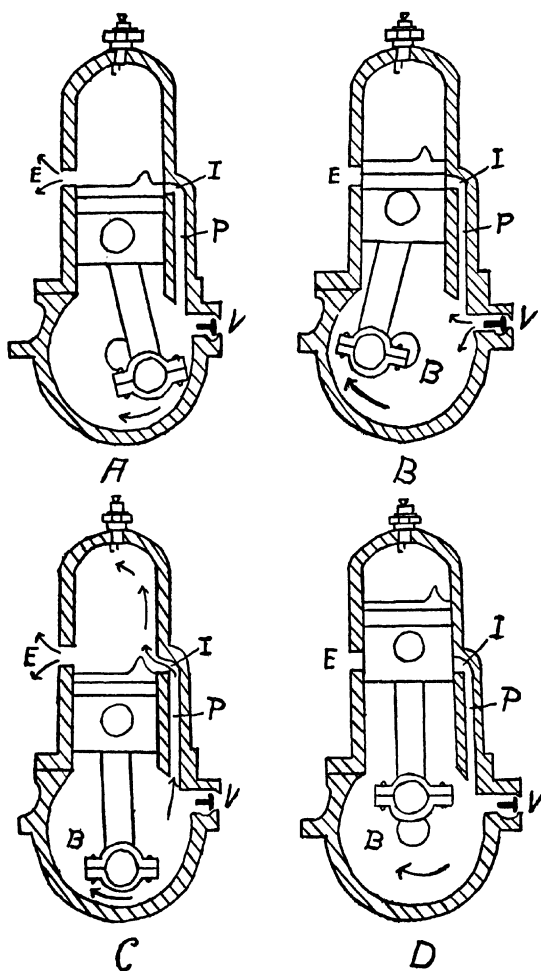

FIG. 76.—The two-cycle gas engine.
**The Two-Cycle Engine.**—The construction and operation of a two-cycle engine will become apparent from a consideration of the diagrams in Fig. 76. We will start with the piston as shown in position A and the cylinder free from gas. If we turn the crank shaft in the direction indicated by the arrow, when the piston has reached the lowest point of the stroke and begins to move upward a partial vacuum will be created in the engine base B and through the valve V a mixture of gas and air from the carburetor will be pumped in. Then as the piston moves downward the gas